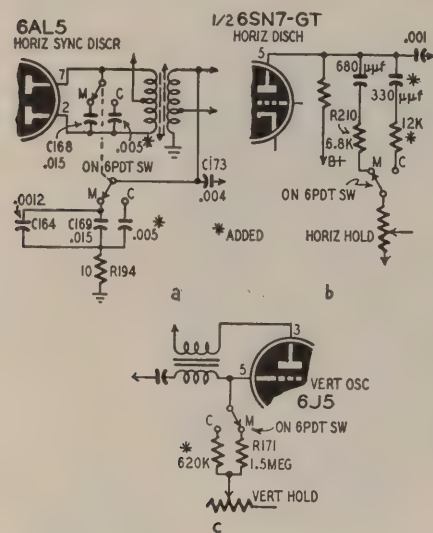

Fig. 4—STS30 changes, (a) horizontal sync, synchrolock system; (b) horizontal discharge; (c) vertical oscillator.
The changes for the 8TS30, Fig. 4, are:
1. Two .005- μ f capacitors were used (Fig. 4-a)—one across the windings of the horizontal sync discriminator transformer primary, and the other across the secondary winding in the reactance tube circuit.
2. A 330- μ f capacitor and a 12,000-ohm resistor were wired into the discharge circuit, Fig. 4-b.
3. The only change in the vertical was to lower the blocking tube grid time-constant by switching in a smaller value grid resistor in the color position (620,000 ohms) Fig. 4-c.